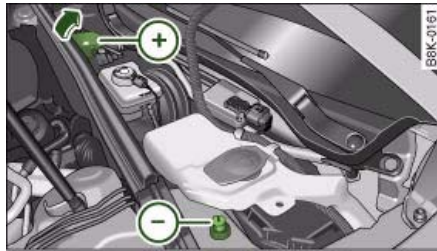

Fig. 236 Engine compartment: Terminals for jump leads and battery charger
The jump-start terminals are located in the engine compartment ⇒ fig. 236.
- Open the red cap on the positive terminal ⇒ fig. 236.